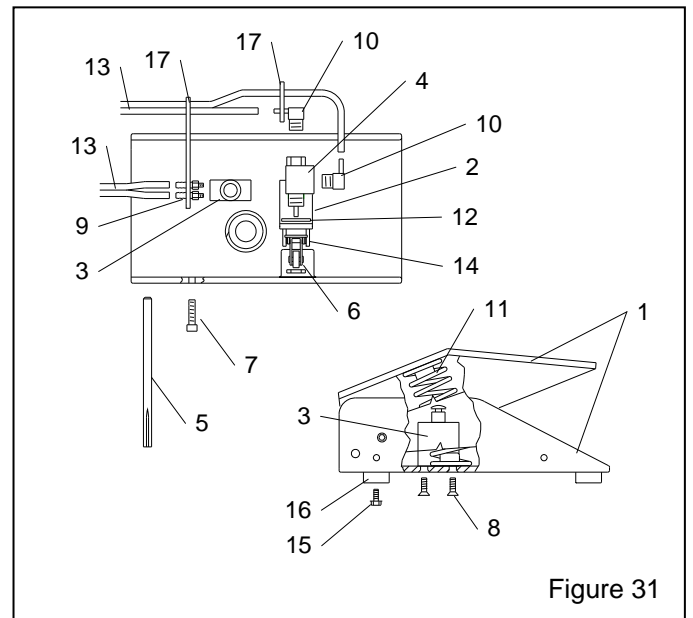

Figure 31
**9.7 Foot Pedal Assembly, Figure 31**